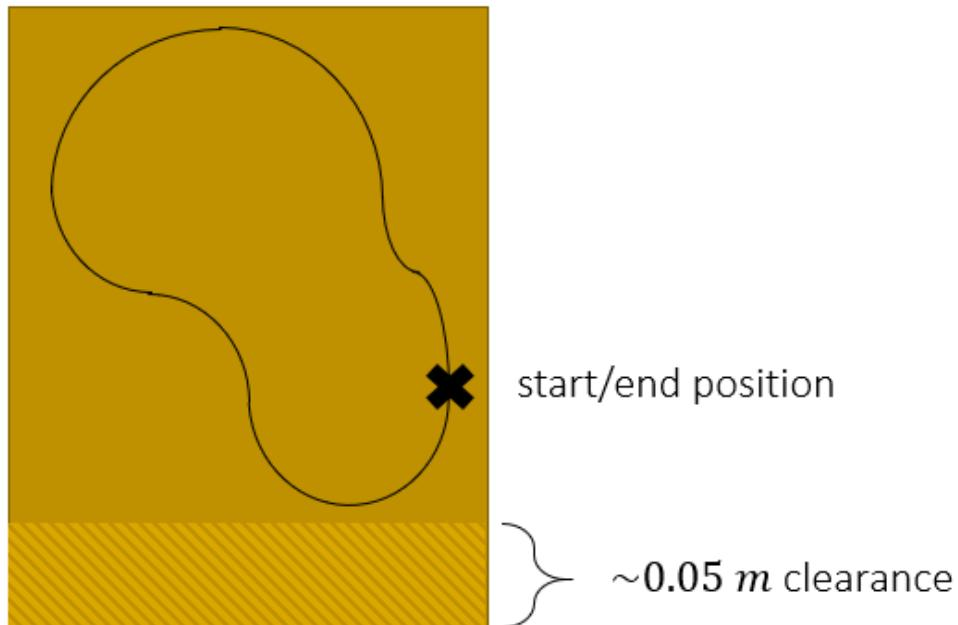

Figure 3: Example closed-loop trajectory on the flat surface with a 5cm clearance.
3. Use a marker pen to draw a simple closed-loop trajectory on the cardboard. Keep a clearance of ~5 cm on the bottom end of the flat surface. An example is shown in Figure 3. Mark a single point as a starting/ending point.